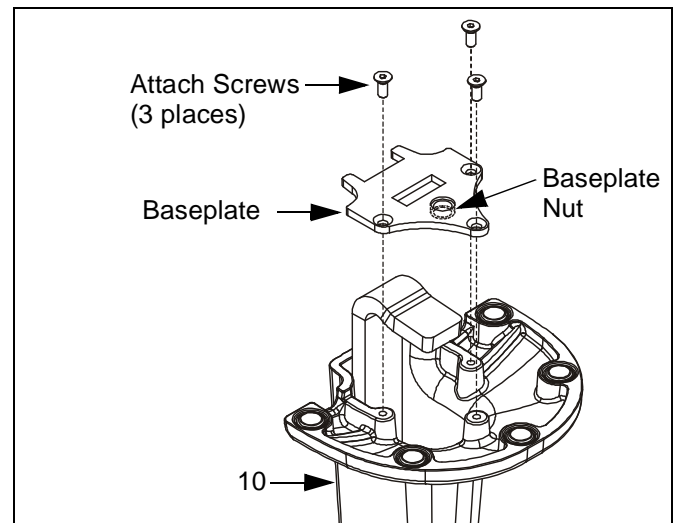

Figure 6: Baseplate
1. Using 2.5mm hex key, remove and retain baseplate and three attach screws from bottom of mount (10) (See Figure 6).
- Using 2.5mm hex key, re-install baseplate with three retained attach screws. Ensure baseplate nut faces *interior* of mount (See Figure 6). Tighten securely.